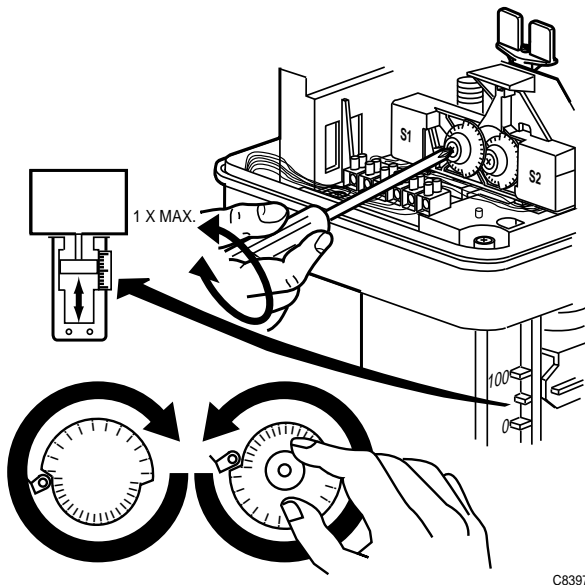

Fig. 6. Adjusting switching points.
- 6 Adjust switching point for each switch. See Fig. 6.